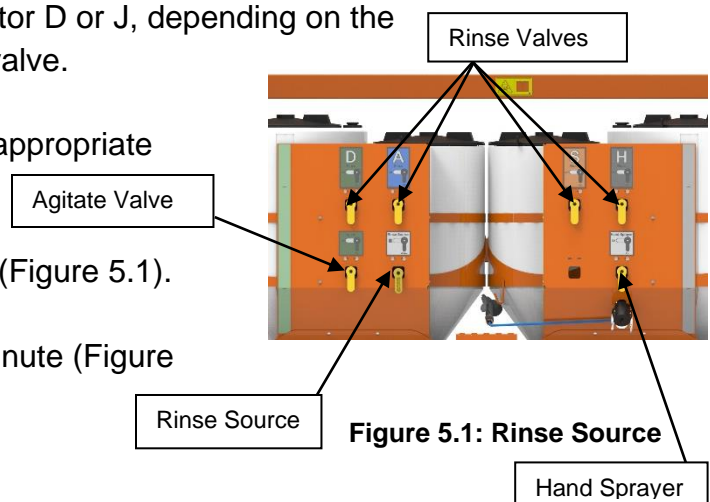

Figure 5.1: Rinse Source
3. Change the Rinse Source to inductor D or J (Figure 5.1).
4. Turn on the Agitate valve and let run for 1 minute (Figure 5.1).
6. Change the Rinse Source to Water (Figure 5.1).
7. Turn on the Agitate valve and let run for 30 seconds (Figure 5.1).
11. Turn on the Agitate valve (Figure 5.1) and fill left inductor with enough fresh water to push any rinse water out of the main water hose.
12. Change the Rinse Source to inductor D or J (Figure 5.1).
13. Turn on the Agitate valve and let run for 30 seconds (Figure 5.1).
14. Turn the Rinse Source back to Water (Figure 5.1).